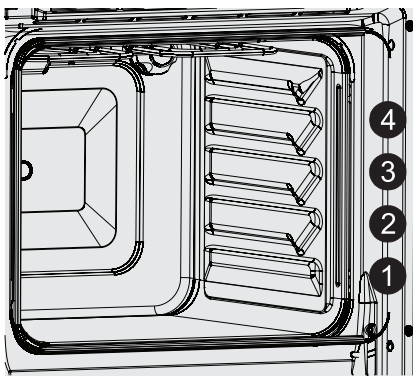
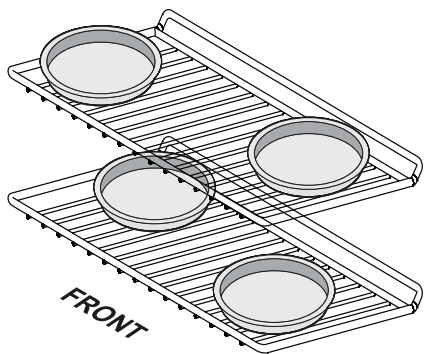

Figure 21: Oven rack positions
Figure 23: Baking with multiple levels & racks
- For best results when baking with one oven rack, place racks in positions 2 or 3 (Figure 21).
- For best results when baking cakes or cookies using two oven racks, place racks in positions 1 and 3 (Figure 21) and place pans as shown in Figure 23.